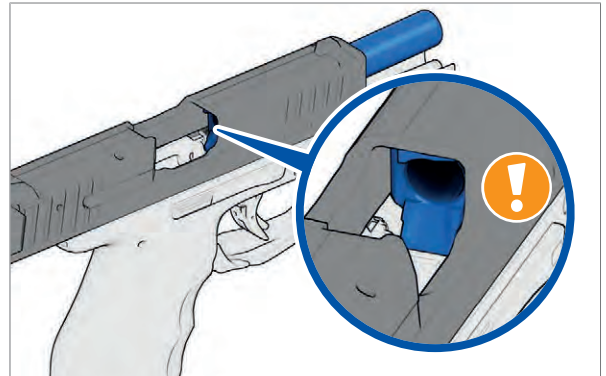

Fig. 14: Look into the chamber
3. Look into the chamber (*Fig. 14*). There must not be a cartridge in the chamber. If there is a cartridge in the chamber, then a fault is present. ► Faults: Causes and remedies.